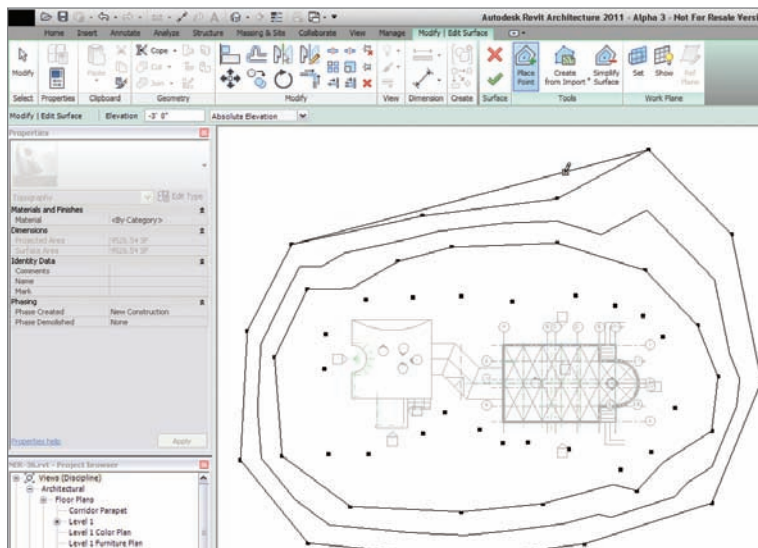

FIGURE 18.4 Adding the third set of contours
8. Add a third contour line surrounding the second, as shown in Figure 18.4.